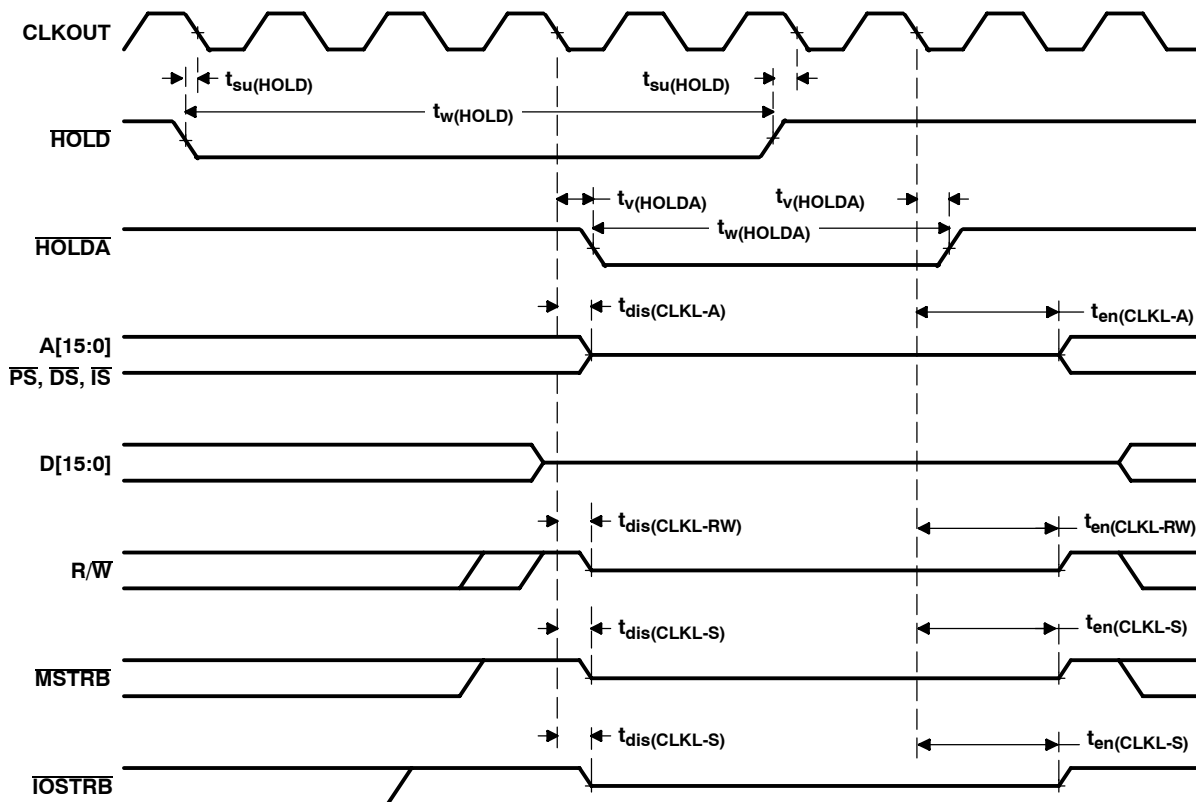

Figure 14. HOLD and HOLDA Timing (HM = 1)
**switching characteristics over recommended operating conditions for memory control signals and HOLDA [H = 0.5 tc(CO)] (see Figure 14)**
**timing requirements for HOLD [H = 0.5 tc(CO)] (see Figure 14)**